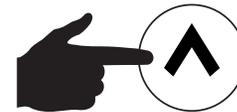

Figure 91. Page Up Button
9. Press the **Page Up** button (Figure 91) to scroll to screen 2 of 7 on the touch display.